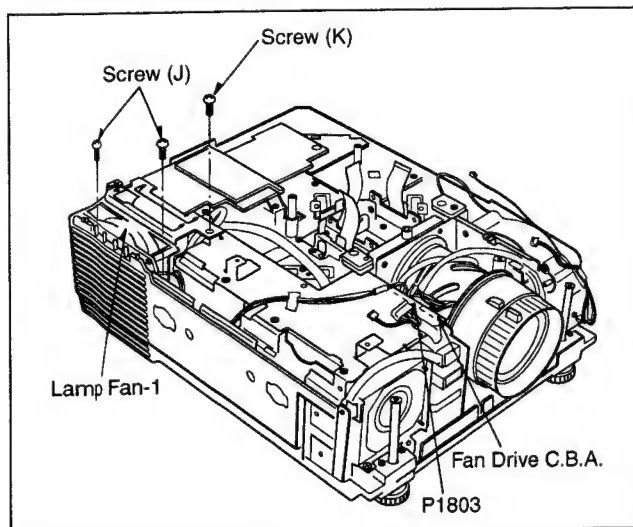

Fig. D10
1. Remove 2 screws (J) and a screw (K) as shown in Fig. D10.